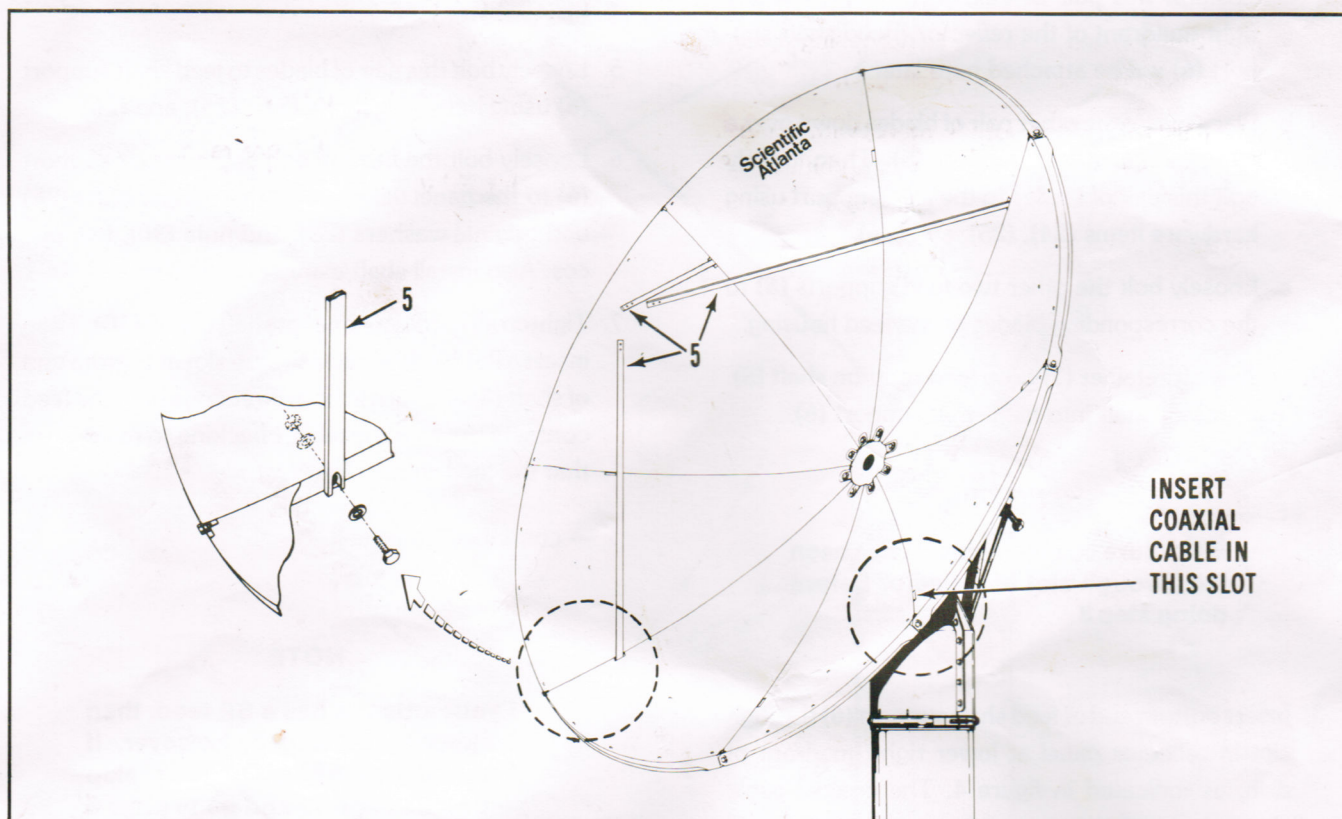

Figure 3. Installation of Feed Supports
6. Insert the three feed supports **(5)** through the slots in the reflector panels as shown in figure 3. Then loosely bolt each support to the respective flange using the hardware previously installed during assembly of the reflector; one bolt on each support.